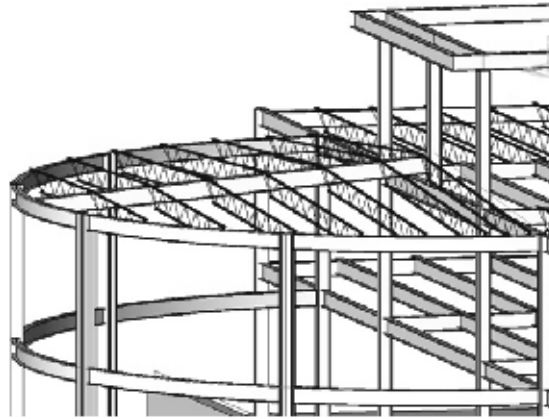

Figure 7-73
4. How do you create sloped beams such as those shown in Figure 7-73?